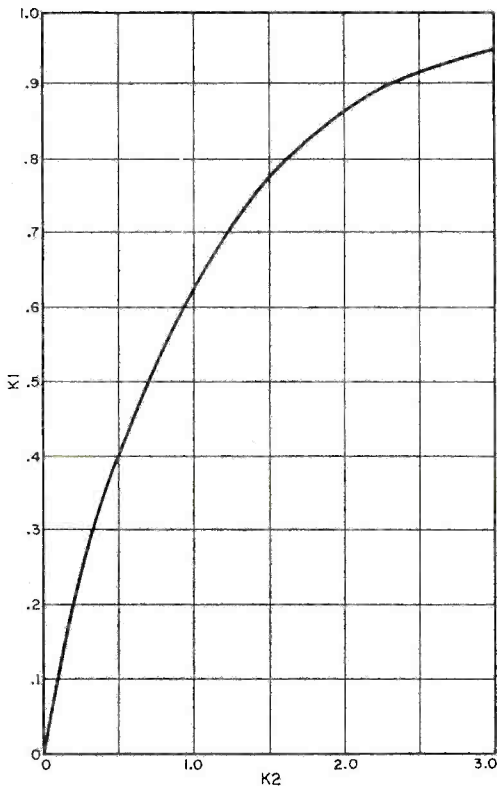

Fig. 3. Relationship of constants K1 and K2.
As shown in Fig. 3, the wiring of the NUMBERS switch and the "32-OVERFLOW" indicator is simple. With  $S_4$  in the "4 BITS + SIGN" position, the indicator is connected across the last adder stage's Carry In (CI) and Carry Out (CO) terminals. Thus, it will light whenever the Carry In and the Carry Out of the "16" place value stage differ. Such a test is all that is needed to determine if the register capacity has been exceeded.
ue of  $K1$  should be less than 0.63 for best results. With  $K1$  calculated, Fig. 3 can be used to determine another constant,  $K2$ . The  $RC$  time constant of the resistor and capacitor can then be calculated from the equation